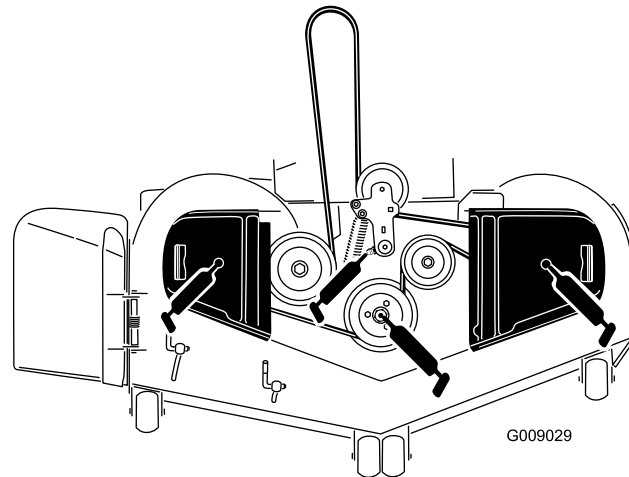

Figure 46
3. Grease the mower-deck idler-pulley pivot until grease come out the bottom (Figure 46).
4. Grease the 3 spindle bearings until grease comes out the lower seals (Figure 46).
- Grease the drive-belt idler arm (Figure 46).